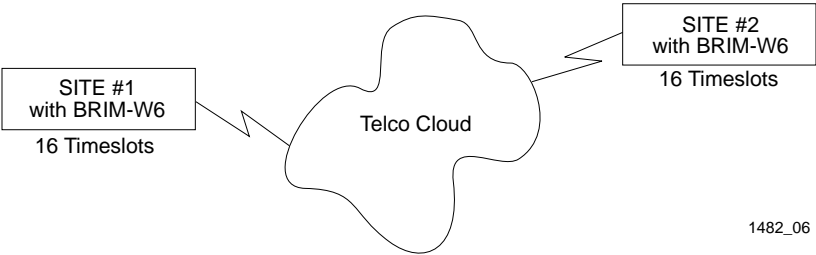

Figure 2-6. Fractional T-1 Configuration
This section provides step-by-step instructions for configuring the WPIM-T1 to use a fractional T-1 circuit in a PPP environment. This example assumes the setup shown in figure 2-6 using two MicroMMAC hubs each with a BRIM-W6 containing a WPIM-T1. Configurations may vary depending on the hub. In a fractional T-1 setup, only a portion of the 24 Timeslots or DS-0's are used.
3. Insert an interface number (see NOTE below) into every Timeslot being used (in the example shown in Figure 2-6, 16 Timeslots are being used, the rest have zeros in them). Type the number, press ENTER, then use the arrow keys to highlight the next Timeslot field. Exit this field by using the arrow keys. The cursor automatically moves to the **T1 Line Coding** field.